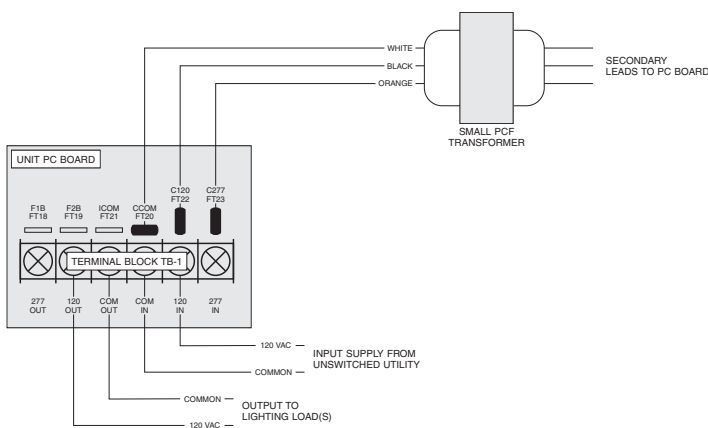

FIGURE 2
2. Connect unswitched utility input line wires to the appropriate terminals on TB-1. (See Figure 1 and Figure 2).